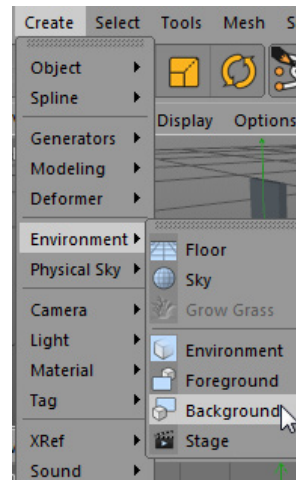

Figure 2-25 Choosing the **Background** option from the main menu
1. Choose **Create > Environment** from the main menu; a cascading menu is displayed. Choose the **Background** option from it, as shown in Figure 2-25; *Background* is added to the Object Manager.